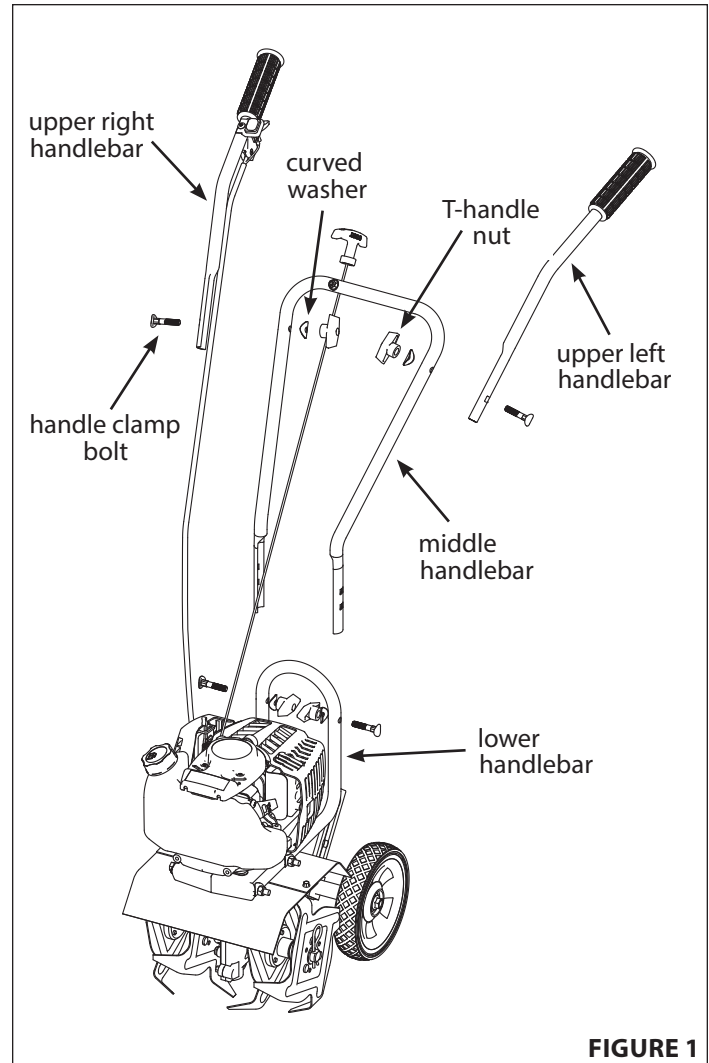

FIGURE 1
2. Using two T-handle nuts, two handle clamp bolts, and two curved washers, attach the middle handlebar to the lower handlebar that is already connected to the cultivator assembly. **SEE FIGURE 1.** The middle handlebar can be installed in one of two positions, one high and one low. **DO NOT** overtighten the T-handle nuts.
3. Attach the upper right and left handlebars to the middle handlebar using the two remaining T-handle nuts, handle clamp bolts, and curved washers. **SEE FIGURE 1.** **DO NOT** overtighten the T-handle nuts.